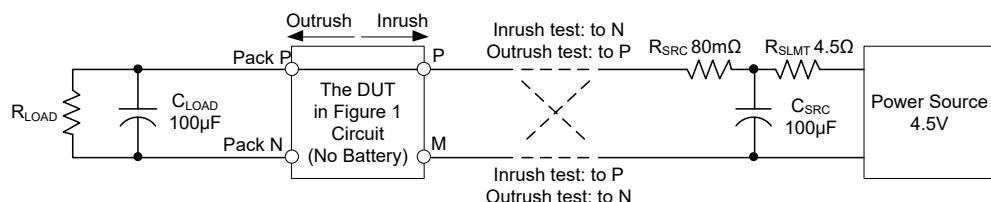

Figure 3. Test Set-Up for Pack P to BATN Attachment Inrush/Outrush
- The device is tested after being installed on the circuit board in Figure 1 with the circuit in Figure 3.